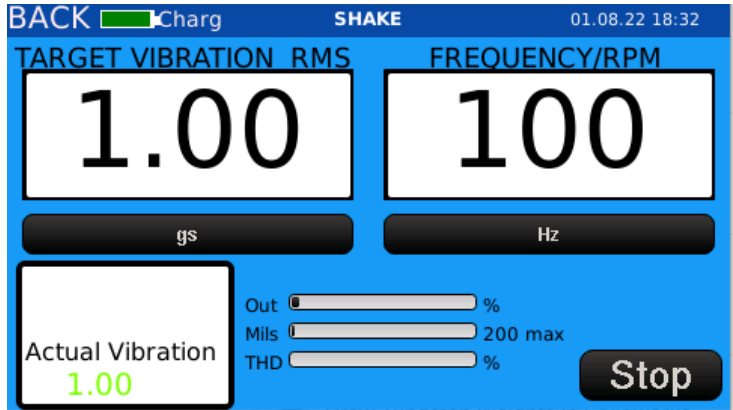

Figure 68. RMS units showing on Shaker Screen
- 2. Select the **RMS button** next to Vib Units ((*Figure 66*) to choose RMS units (*Figure 68*).